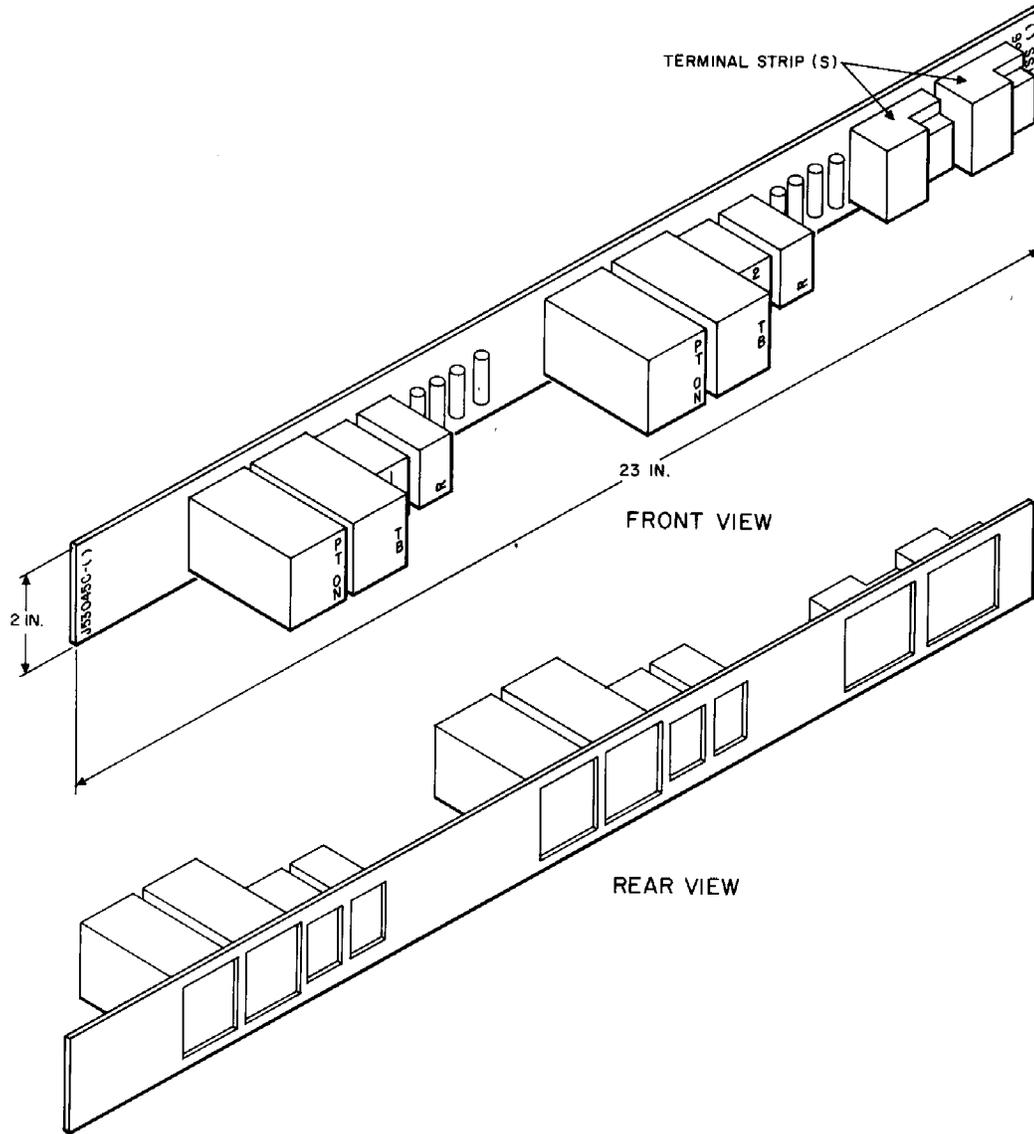

Fig. 3—Station Unit
**2.06** The station relay circuit provides talking battery and ground for a 4-wire type telephone set and converts loop dialing to 1- and 2-lead dialing when SS-1-type signaling option is wired. It also provides for station set push-to-talk operation. The station unit (Fig. 3) contains two station relay circuits.